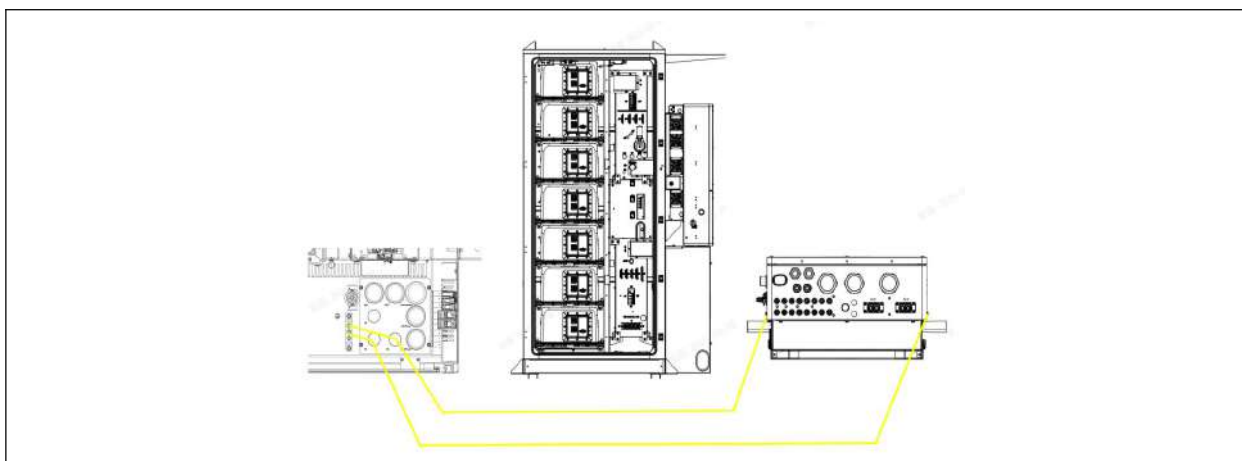

Figure 5-13 Grounding cable connection diagram
1. As shown in Figure 5-13, on the right is the grounding copper bar of the battery cabinet. The holes in the copper bar are M6. SolisStorage will provide two grounding cables. The cable label is: L071101-02170 Connect the two grounding cables from the left and right shells of the hybrid inverter to the grounding copper bar.